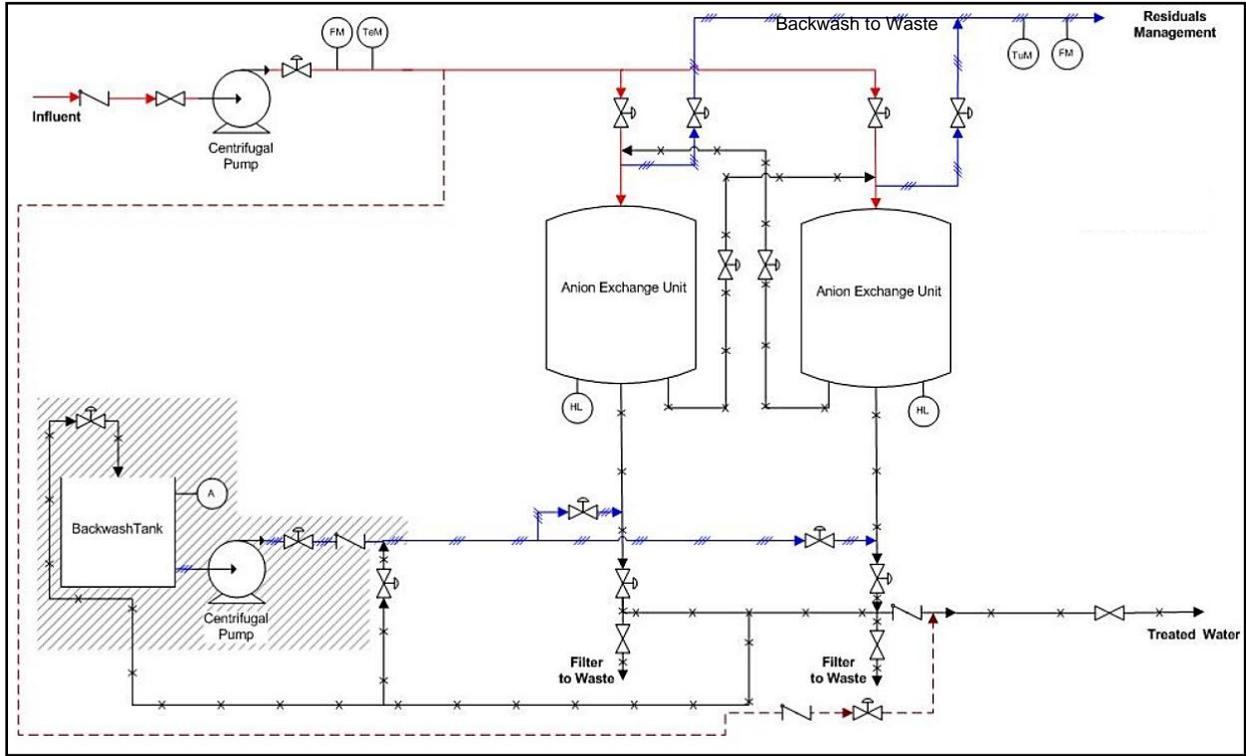

Figure 7: Example PFD with basic features. This drawing could be a starting point for creating a P&ID with control and communication details.
- Process flow diagrams of treatment system (see Figure 7),